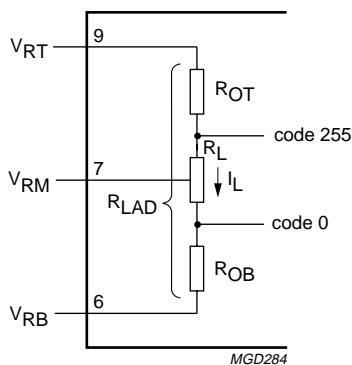

Fig.3 Explanation of note 3.
3. In order to ensure the optimum linearity performance of such converter architecture the lower and upper extremities of the converter reference resistor ladder (corresponding to output codes 0 and 255 respectively) are connected to pins  $V_{RB}$  and  $V_{RT}$  via offset resistors  $R_{OB}$  and  $R_{OT}$  as shown in Fig.3.